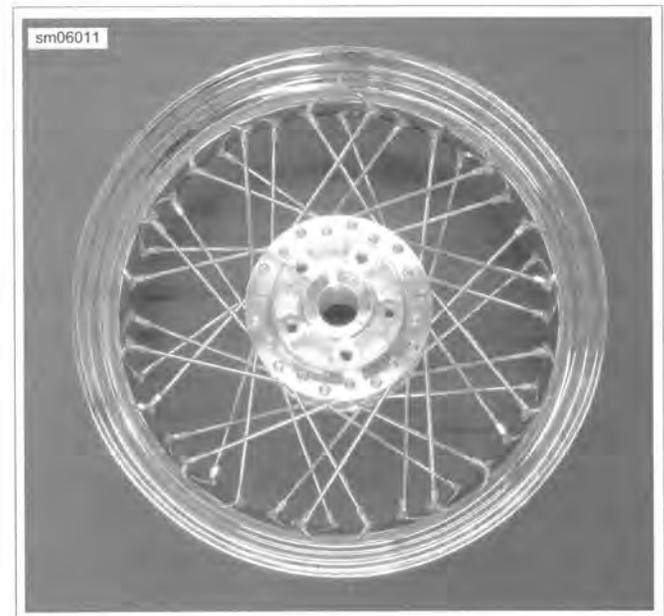

Figure 2-23. Completed 16 Inch Rear Wheel
15. Verify that completed wheel resembles Figure 2-23.